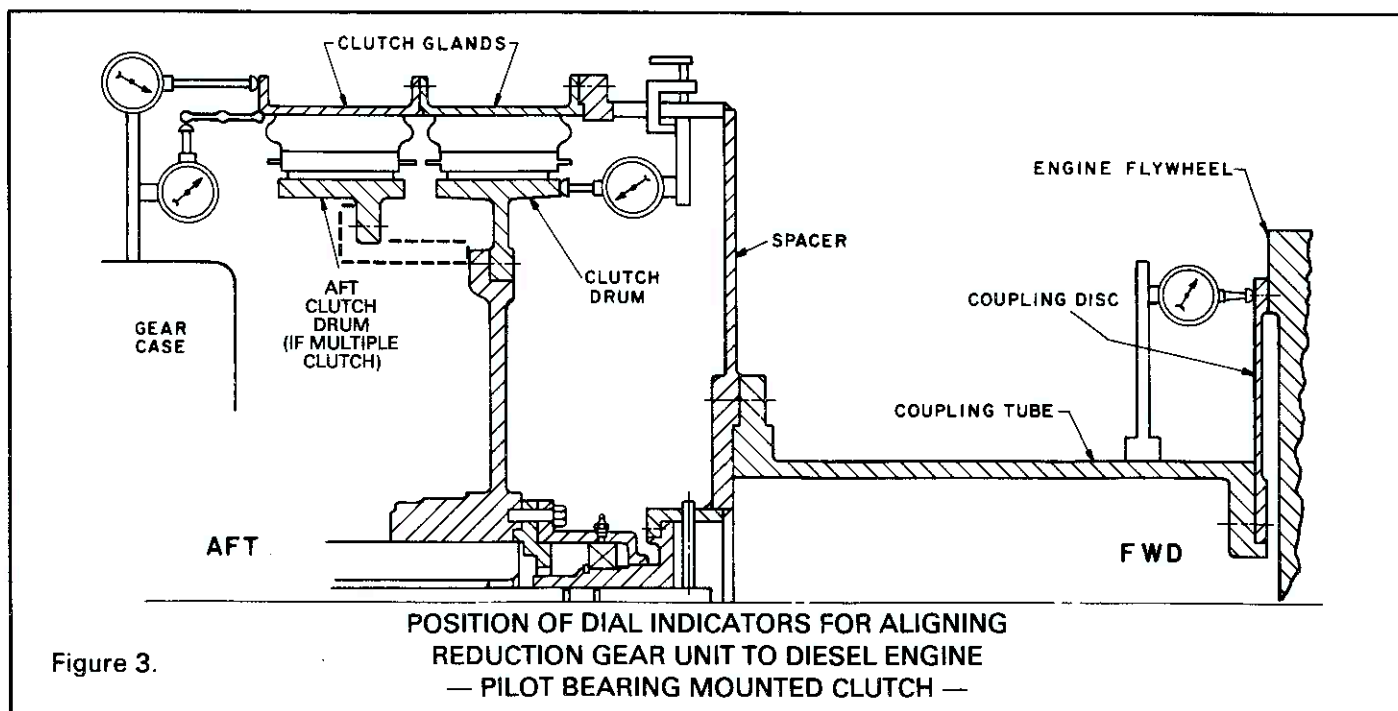

Figure 3.
1. After gear is in place with gear tooth contact checks made per Falk instructions and propeller shaft alignment to gear is satisfactory with chocks, shims and gear foundation bolts made up tight, proceed with engine-to-gear alignment. See Figure 3.